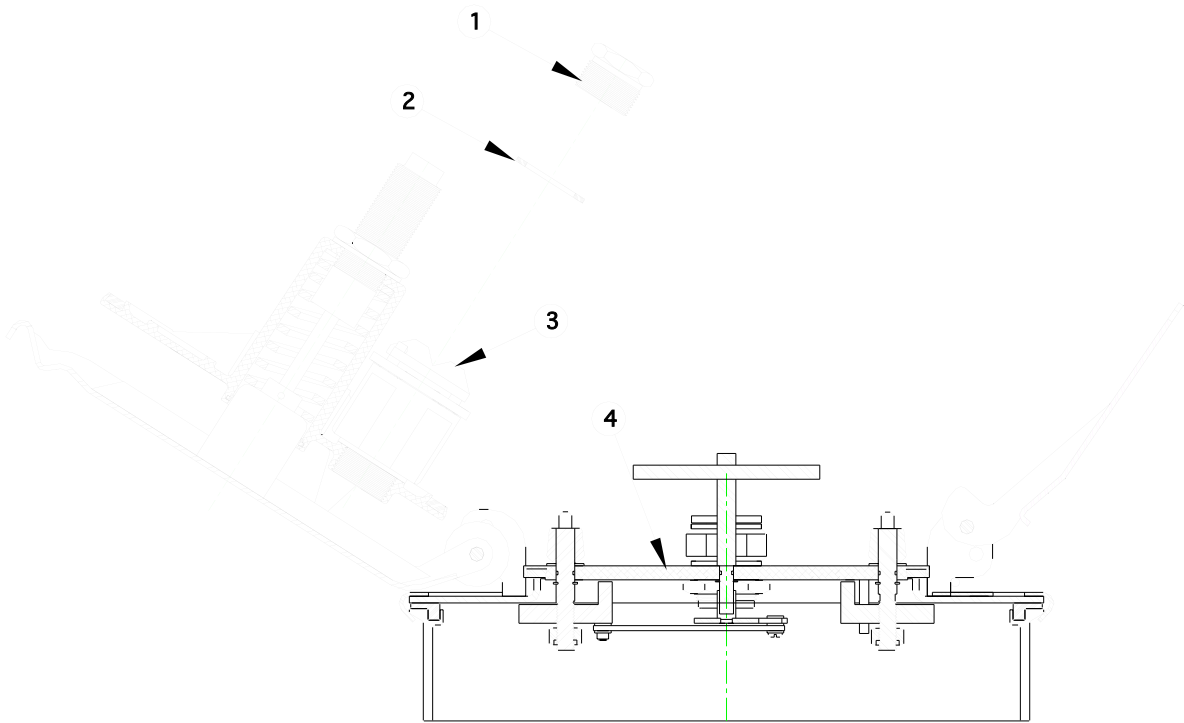

Figure 2a
<p>Annual leakage test is covered by 49CFR180.407(h) which requires tanks to be tested annually at 80% of the tank design pressure or MAWP, whichever is listed on the tank specification or certification plate. Every component must remain in place for the duration of this test, except any re-closing pressure relief device with a set pressure less than the leakage test pressure must be removed or made inoperative during this test. All Knappco Normal Vents, consequently, need to be removed.</p> <p>Note: Refer to Figure 2a.</p>
<p>Pressure retest is covered by 49CFR180.407(g). Section 49CFR180.407(g)(1)(ii)(A) mandates all pressure relief devices be removed from the tank for inspection and bench testing to verify the relief device in operating correctly. The pressure retest and the relief device bench test must be performed at least every 5 years. See Figure 2a.</p>
4.	Insert Knappco Retest Fixture (Part No. 5800) (4) to seal the opening. See Figure 2a.